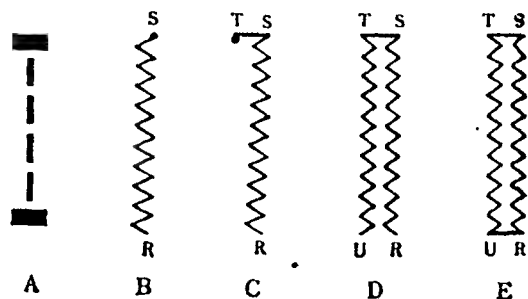

Fig. 23
3. Using tailors chalk, mark the buttonhole on the fabric (See Fig. 23 A).